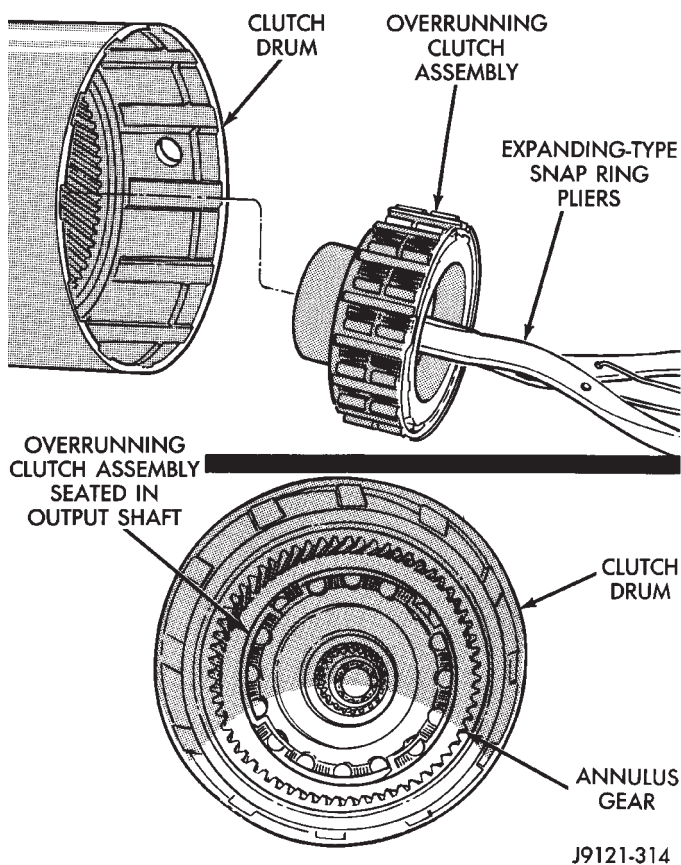

Fig. 42 Installing Overrunning Clutch
(10) Install overrunning clutch in output shaft (Fig. 42). Insert snap ring pliers in hub splines. Expand pliers to grip hub. Then install assembly with counter-clockwise, twisting motion.